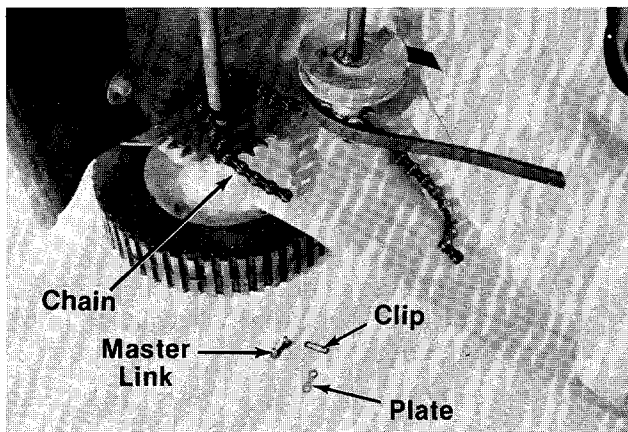

FIGURE 29.
9. Remove master link from the chain by rotating chain by hand to locate the master link. Use a screwdriver to remove the clip. Remove plate and link. See figure 29.